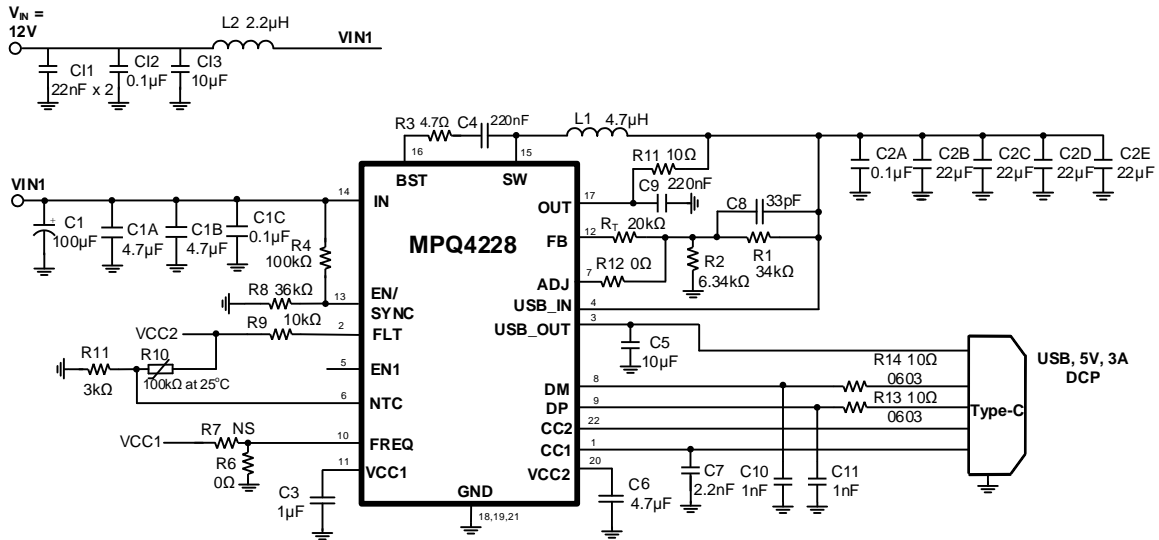

Figure 15: $V_{IN} = 12V$, $V_{OUT} = 5V$, $I_{OUT} = 3A$, $f_{sw} = 420kHz$ (Type-C DFP with BC1.2 DCP Mode)
- 9) The recommended layout is based on Figure 15 on page 26).